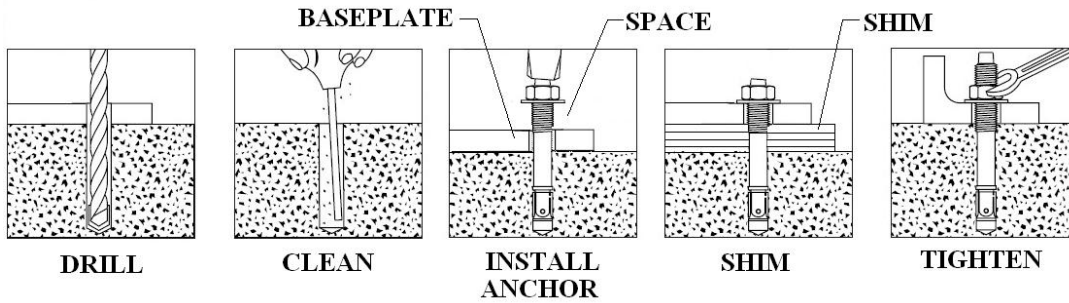

Figure 21 – Anchor Bolts
3. Refer to Bay Layout (**Figure 4**) to ensure that the column is still in the proper position. Using a rotary hammer drill with a 3/4" masonry drill bit and using the tower baseplate as a template, drill holes through the concrete floor on the high side column (In case longer anchors are required, supplied anchors can be hammered through concrete). Make sure that the 3/4" masonry drill is in good condition (**Figure 21**).
4. Carefully clean out drilling dust from the anchor holes. Hammer in the anchor bolts until they make contact with the baseplate (**Figure 21**). Hand tighten all anchor bolts.
2. Refer to Bay Layout (**Figure 4**) to ensure that the column is still in the proper position. Using a rotary hammer drill with a 3/4" masonry drill bit and using the tower baseplate as a template, drill holes through the concrete floor on the low side column (In case longer anchors are required, supplied anchors can be hammered through concrete). Make sure that the 3/4" masonry drill is in good condition (**Figure 21**).
3. Carefully clean out drilling dust from the anchor holes. Hammer in the anchor bolts until they make contact with the baseplate (**Figure 21**). Hand tighten all anchor bolts.
6. Torque all anchor bolts to 150 ft-lbs. (203 Nm), continually checking that the crossmember and column are level as you proceed. If anchor bolts do not tighten to 150 ft-lbs. OR project more than 2 1/4" above the concrete surface (**Figure 21**), the concrete should be replaced by an appropriate concrete pad. (*Consult Product Manufacturer / Supplier for further details*).